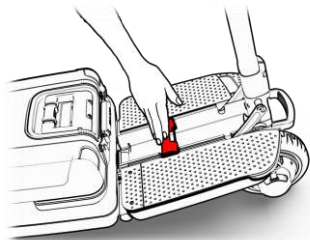

Figure 11
8. Place the handle in its designated place (see Figure 11).